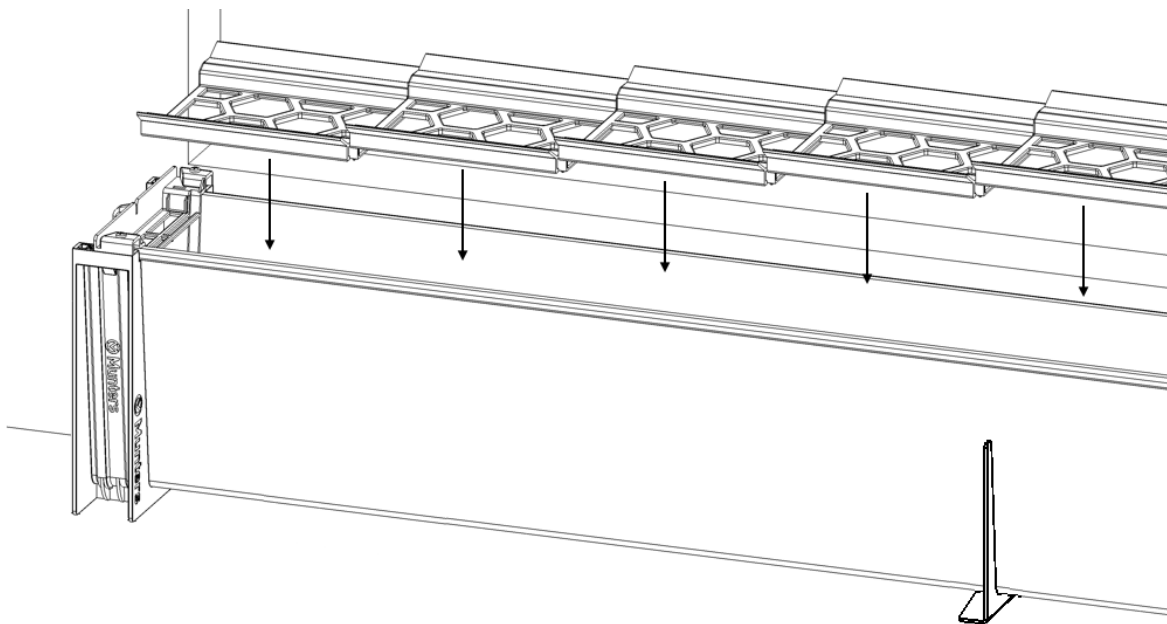

Figure 17
Install all the Pad Supports [ref. 8] on the Bottom Water Gutter. The Pad Supports must be positioned one next to each other. Do not leave space in between the pad supports. See Figure 17.